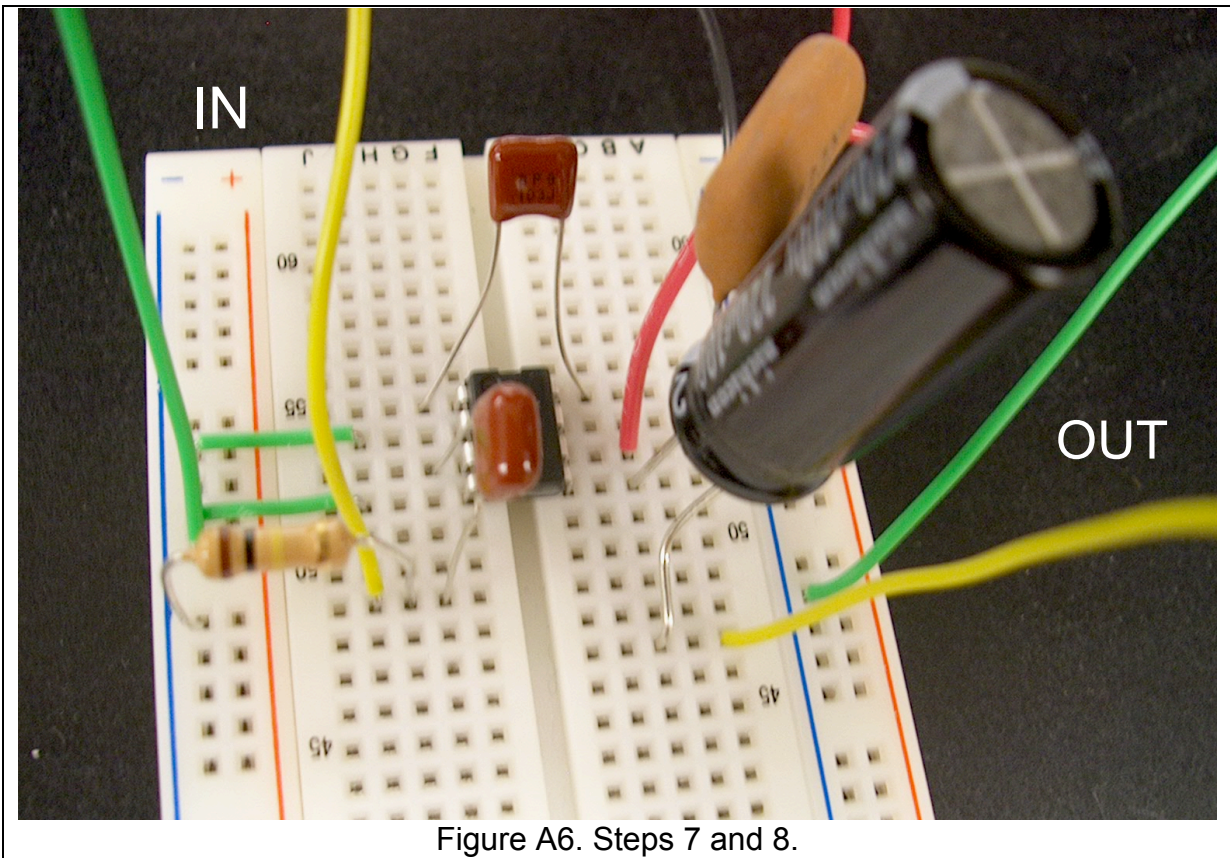

Figure A6. Steps 7 and 8.
7. Connect the 220 uF capacitor from Pin 5 to some row that you are not using (yet). An example is shown in Figure A6.